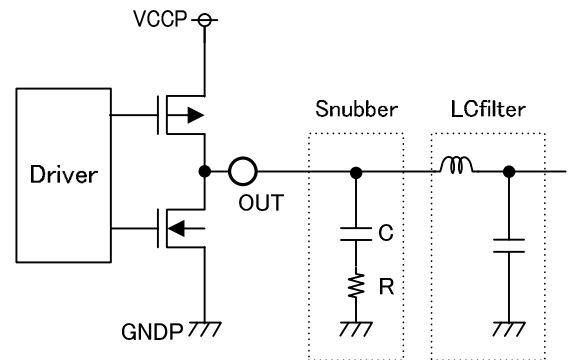

Figure 80. snubber schematic
- ① Measure the spike resonance frequency f_1 of the PWM output wave shape (When it stands up.) by using FET probe in the OUT terminal. (Figure 80) The FET probe is to monitor very near pin and shorten ground lead at the time of that.
- ② Measure resonance frequency f_2 of the spike as a snubber circuit fixed number $R=0\Omega$ (Only with the condenser C, to connect GND) At this time, the value of the condenser C is adjusted until it becomes half of the frequency ($2f_2=f_1$) of the resonance frequency f_1 of ①. The value of C which it could get here is three times of the parasitic capacity C_p that a spike is formed. ($C=3C_p$)
- ③ Parasitic inductance L_p is looked for at the next formula.